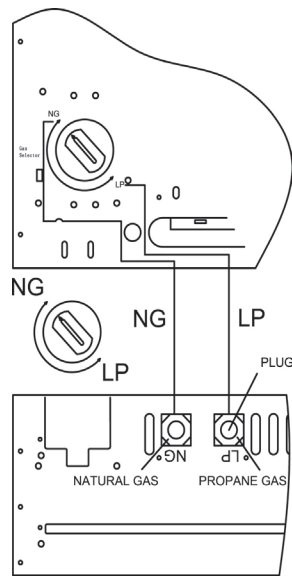

Figure 16
2. For NATURAL GAS, press knob using a flat screwdriver with a blade with thickness of a quarter and turn knob clockwise  until the knob locks into the NG position (see Figure 16). Fuel selection device must be locked in the NG position. Do not operate heater between locked positions!